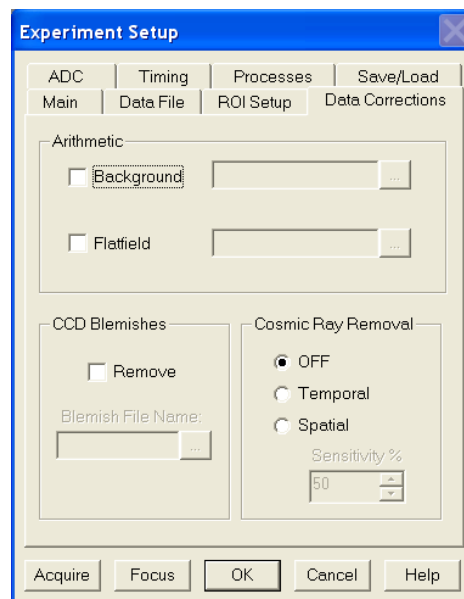

Figure 31. Data Corrections tab
- On the **Data Corrections** tab (Figure 31) all of the correction functions should be OFF.